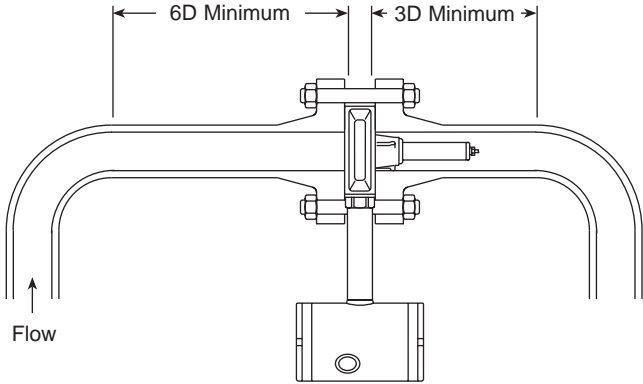

Fig. 5
**Note:** See pages 8 and 9, Figures 5 to 8 for other considerations which need to be noted before determining the correct installation location.
The DIVA normally only requires a minimum of 6 pipe diameters upstream and 3 downstream of clear straight pipe. These dimensions assume a measurement from a single 90° bend (see Figure 5).